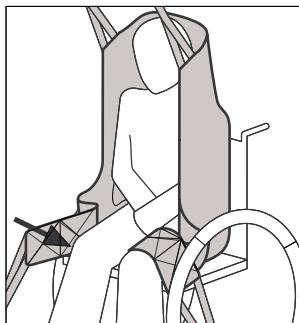

Figure 2
4. Pass the leg support towards the front of the chair to each side of the thigh and then pass each leg support under each thigh. **Figure 2**.